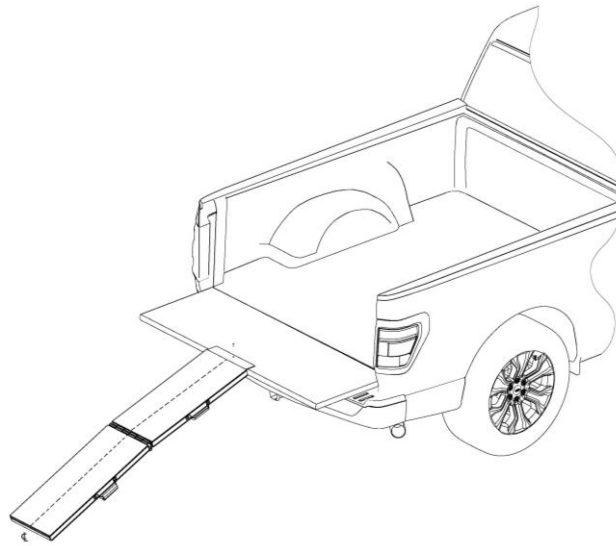

FIG. 1
- ▲ Always enter and exit ramps along the centerline (Φ) (FIG. 1).